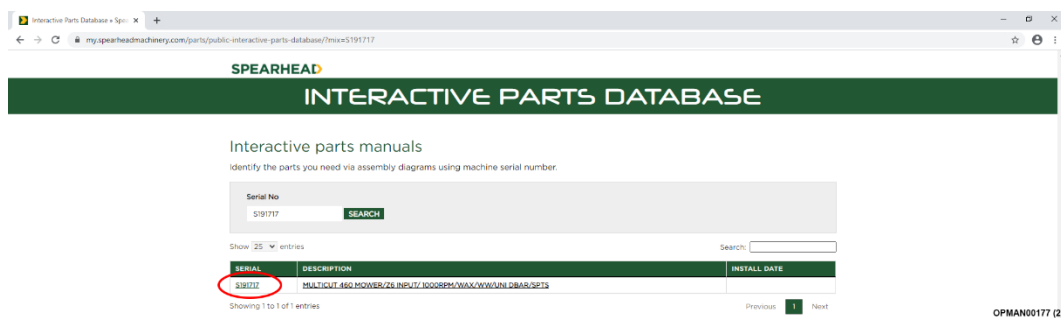

Figure 25 – Click On Serial Number
7.1.1.2 After entering the serial number a specification for the machine will appear. Click on the serial number; see Figure 25.